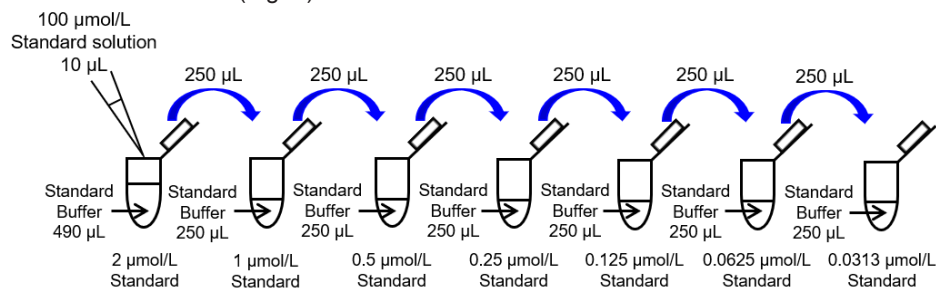

Fig. 4 Preparation of Standard solution
- (1) Mix 2 μL of 10 mmol/L Standard stock solution and 198 μL of ddH₂O in a microtube to prepare a 100 $\mu\text{mol/L}$ Standard solution.
- (2) Mix 10 μL of 100 $\mu\text{mol/L}$ Standard solution and 490 μL of Standard Buffer in a microtube to prepare a 2 $\mu\text{mol/L}$ Standard solution. Prepare Standard solutions (2, 1, 0.5, 0.25, 0.125, 0.0625, 0.0313 and 0 $\mu\text{mol/L}$) as follows by serial dilution with Standard Buffer (Fig. 4).